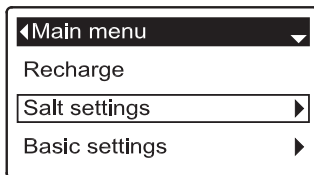

FIG. 89
2. Press the DOWN (▼) button to scroll through the menu options until **Salt settings** is highlighted (See Figure 89).